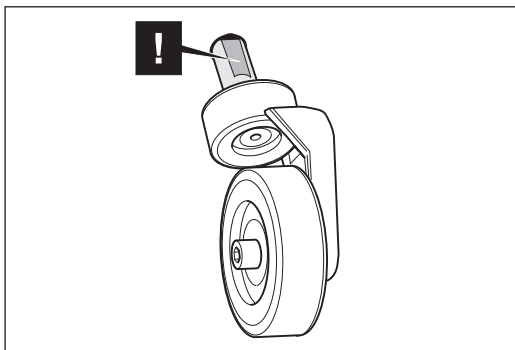

Fig. 56 When mounting the complete rear wheel, align the tensioning surface of the tail axle towards the screw in the machine housing.
- 11 Mount the complete rear wheel in reverse sequence and fasten it again in the machine housing, aligning the tensioning surface of the tail axle (Fig. 56) towards the screw in the machine housing.